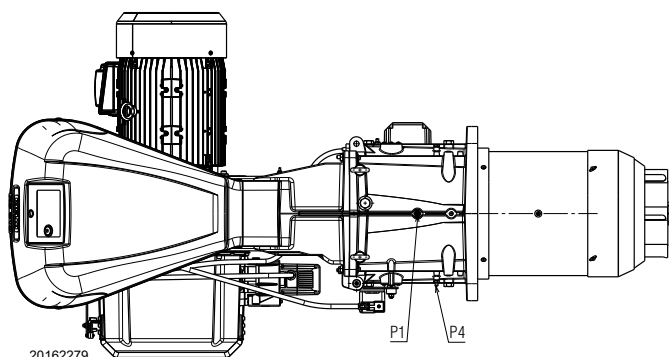

Fig. 21
Gas pressure measured at the test point P1 (Fig. 21), with:
- subtract the combustion chamber pressure from the gas pressure measured at test point P1 (Fig. 21).
$$\begin{aligned} \text{Gas pressure at test point P1 (Fig. 21)} &= 27.6 \text{ mbar} \\ \text{Pressure in combustion chamber} &= 2 \text{ mbar} \\ 27.6 - 2 &= 25.6 \text{ mbar} \end{aligned}$$
To calculate the required gas pressure at test point P1 (Fig. 21), set the MAX output required from the burner operation:
- read, on the right (column 1), the pressure at the test point P1 (Fig. 21).
Pressure required at test point P1 (Fig. 21).